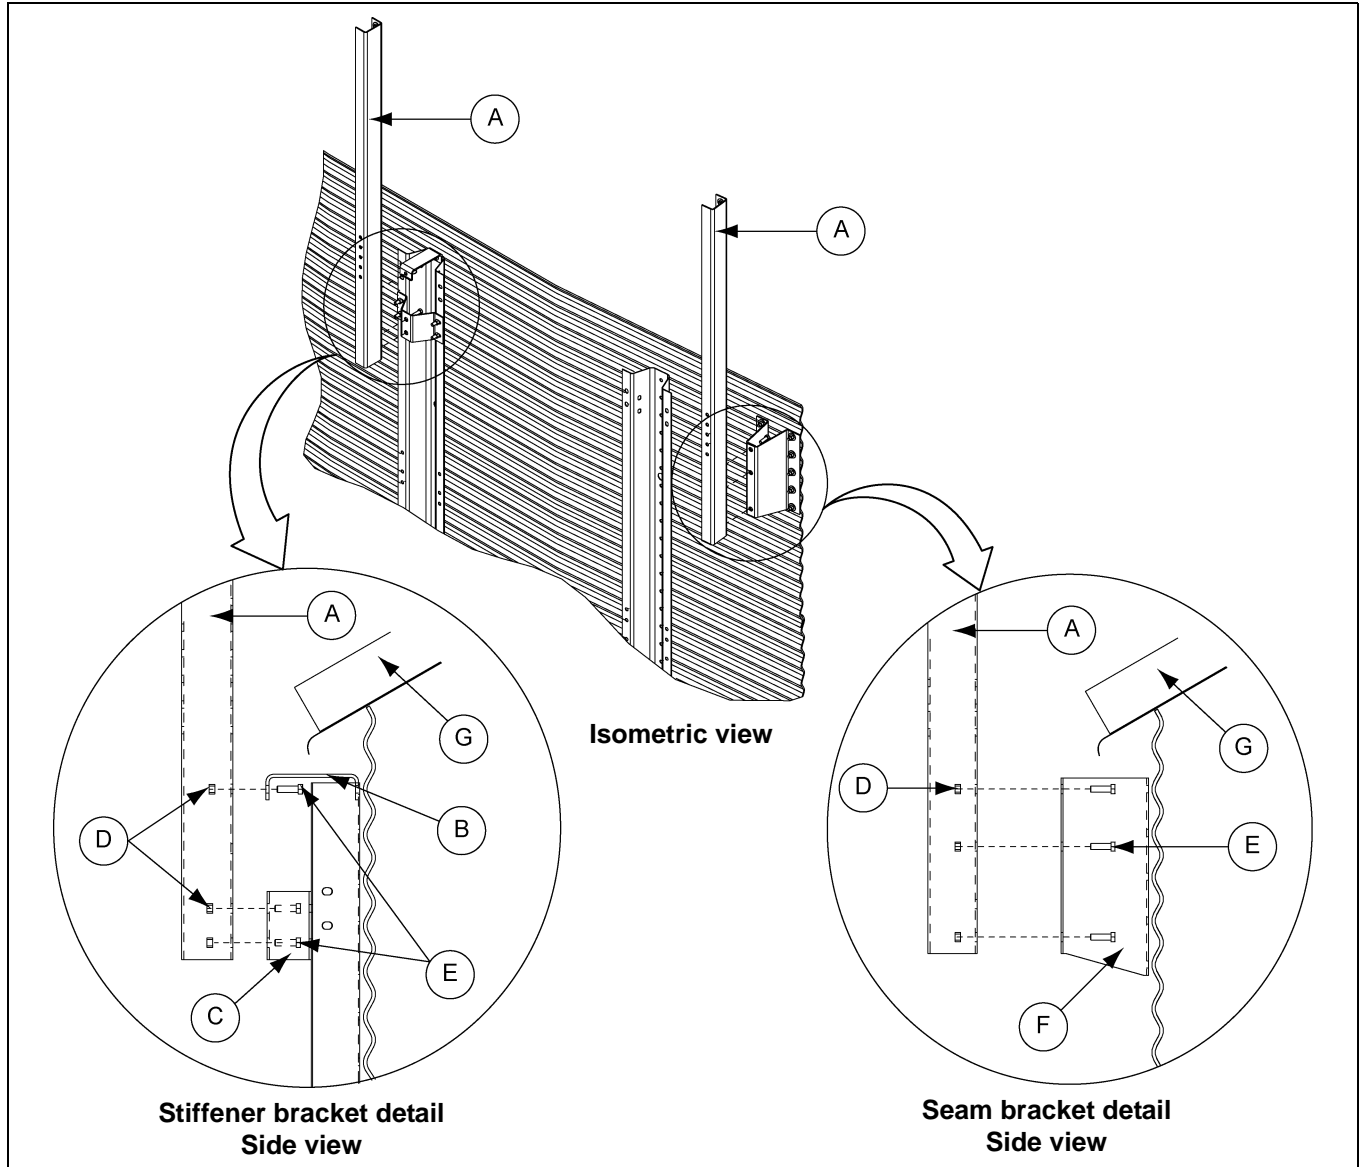

Figure 3C
After the seam and stiffener brackets (F and C) are installed, attach the guard channels (A) as shown in the Figure 3C. Use 1/2" hardware for each connection.